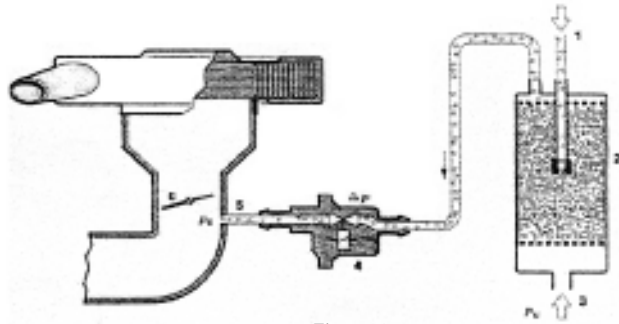

Figure 3-16
2. Canister control valve (TEV) (see Figure 3-16)